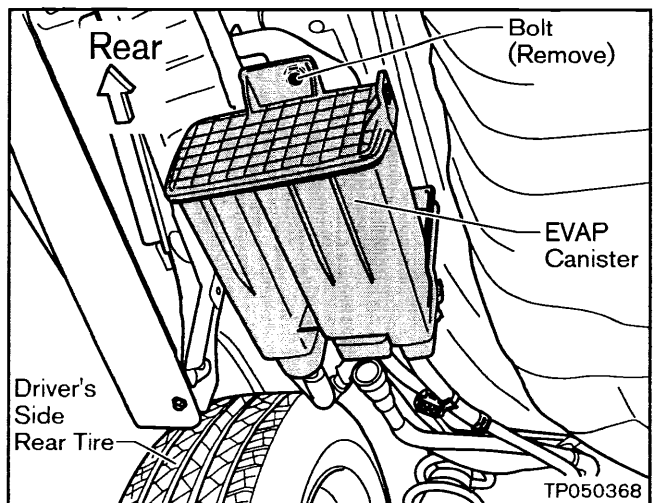

Figure 20
3. Remove one Bolt and slide the EVAP Canister rearward to remove it from the vehicle (see Figure 20).